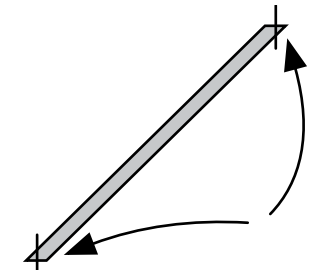

Figure 23
3. Cut off the tips of the pieces so they fit into the corners (Figure 23).